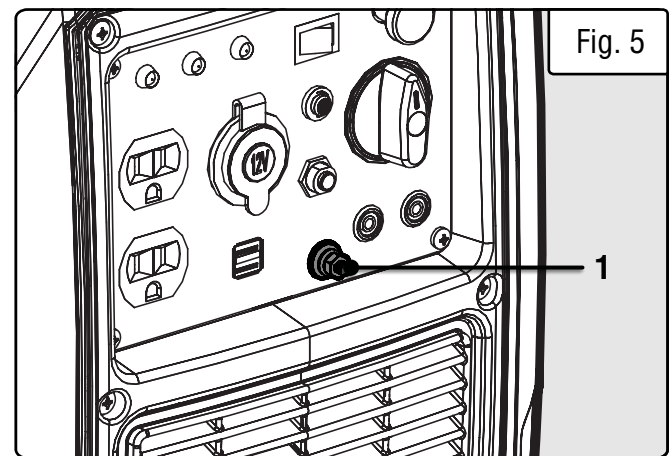

Fig. 5
1. Attach one end of the grounding wire to the grounding nut (Fig. 5 - 1). Tighten the nut to secure the grounding wire.